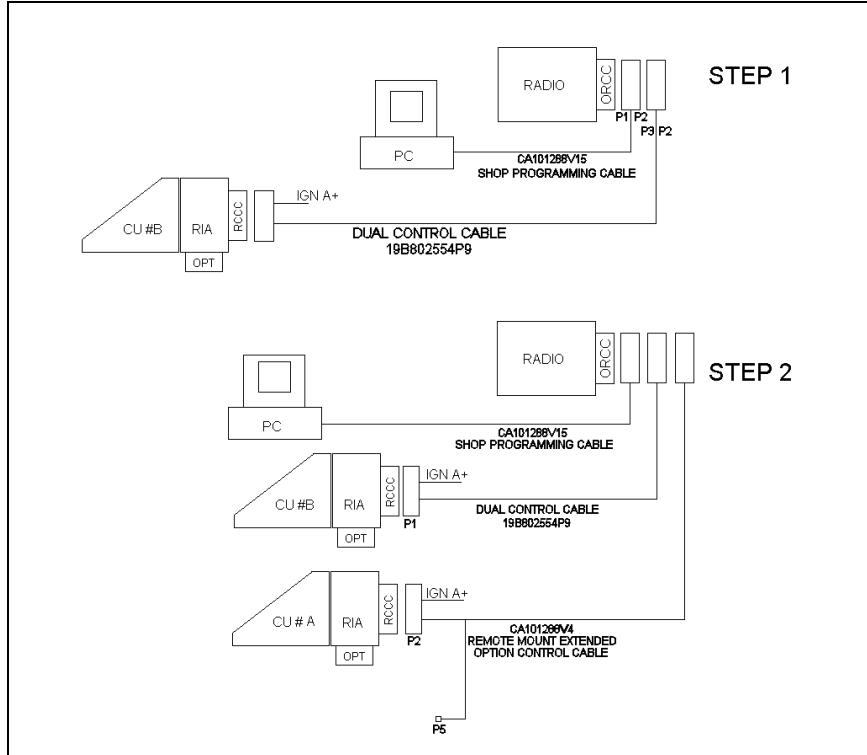

Figure 23 – M7100^{IP} Dual Control Unit PC Programming Configuration Remote Mount
1. Configure the M7100^{IP} Remote Mount Radio with ProGrammer Assembly, as shown in Figure 23, Step 1. Program the radio with the following control configurations:
2. Now configure the Remote Mount Radio and the Auxiliary Control Unit together with ProGrammer, as shown in Figure 23, Step 2. Program this configuration with the following files: